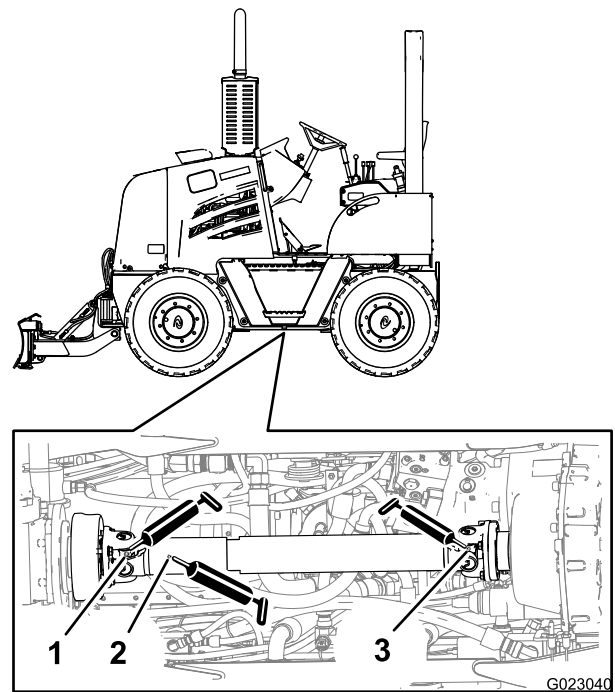

Figure 32
2. Connect the grease gun to the grease fitting for the slide coupling at the at the forward end of the drive shaft, and apply 2 or 3 pumps of grease to the fitting (Figure 32).